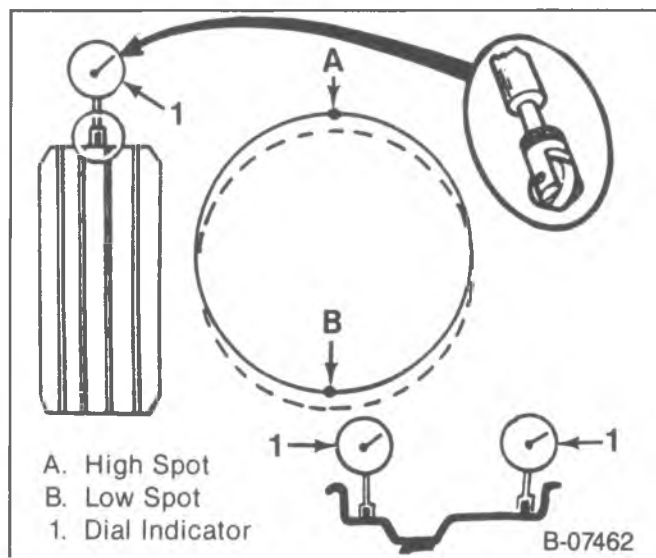

Figure 2—Measuring Radial Runout
Radial runout is the egg-shaped difference from a perfect circle. Measure tire radial runout from the center tire tread rib although other tread ribs can be measured as well. The total runout is the reading from the gage, and the high spot is the location of the maximum runout. On a rim, if either flange is beyond specifications, replace the rim (figure 2).
- Install a valve core and inflate to the specified pressure (figure 2).